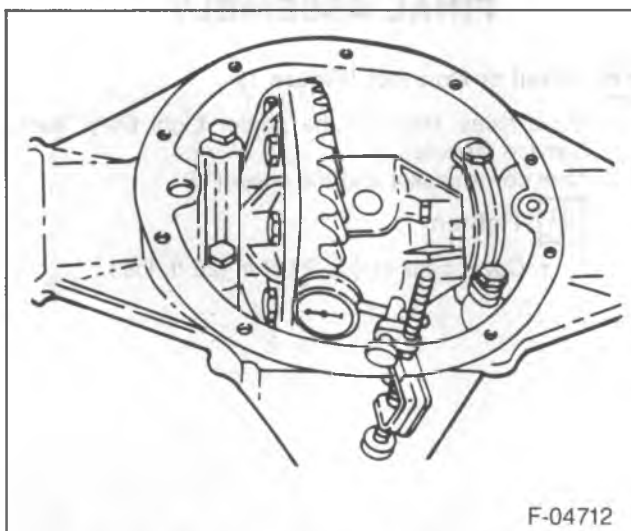

Figure 24—Checking Ring Gear Backlash
- Set the dial indicator so that the stem is in line with the gear rotation and at a right angle to the tooth angle (figure 24).
5. Install the differential caps (10) and bolts (18).